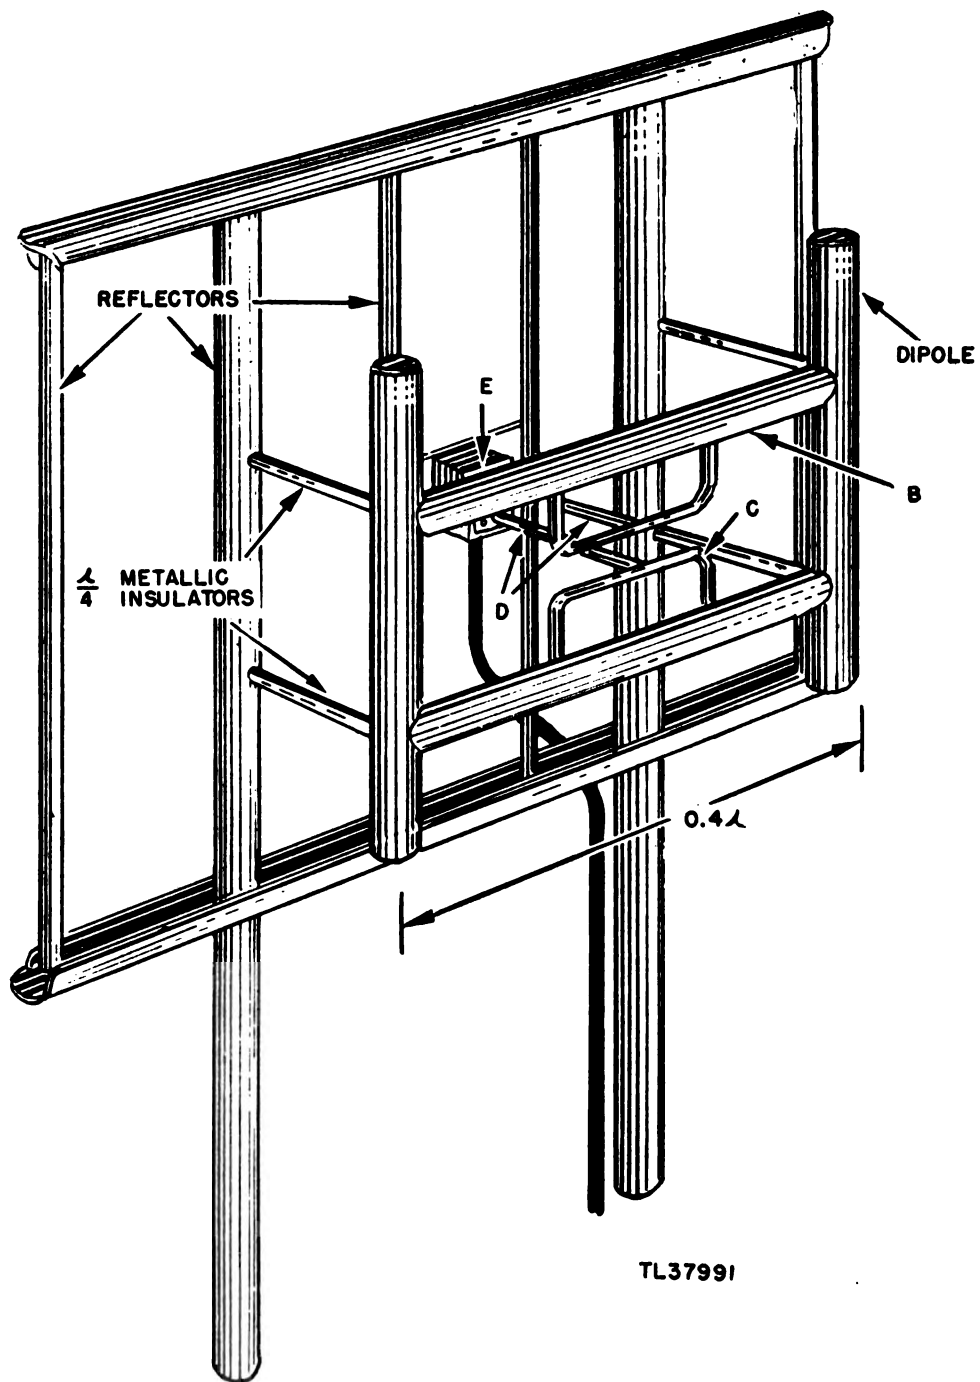

Figure 20. Antenna array.
*a. COMPONENTS OF ANTENNA ARRAY.* The antenna consists of two vertical dipoles provided with reflectors, from which they are separated by  $\frac{1}{4}$  wavelength metallic insulators (fig. 20). The physical spacing between dipoles is approximately 0.4 wavelength. Feeding the dipoles are two horizontal transmission lines in the form of metal tubes (B). Two Y-shaped